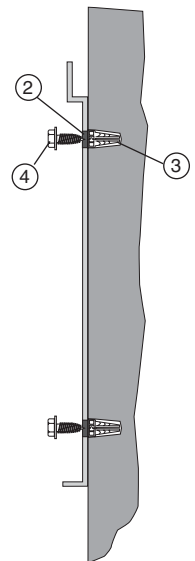

Figure 3
3. Drill the 4 anchor holes and place anchors in each hole. **Figure 3.**